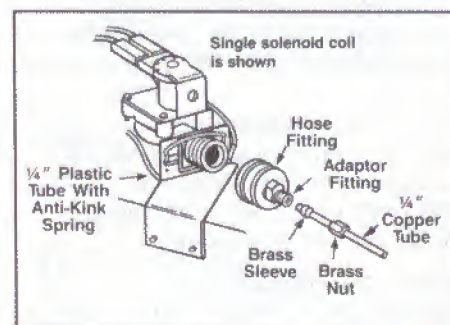

FIGURE 36
3. Remove the compressor compartment cover from the bottom rear of the refrigerator to reveal the water valve coupling. Place a small container under the valve to catch water spills. Remove the brass hose fitting from the valve. Unscrew the compression nuts from the tube and bottom of valve. Push end of the tubes away from the valve fitting. See Figure 36.